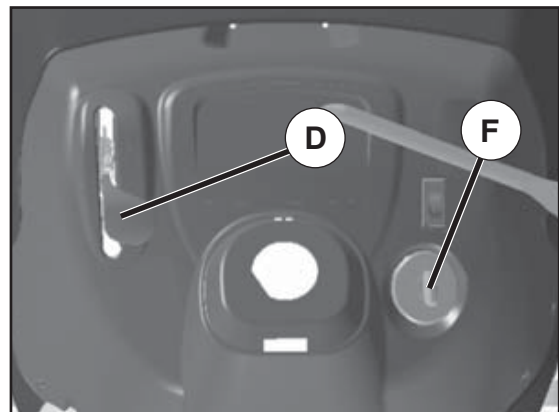

Fig. 7
- Move throttle control (D) between half and full speed (fast) position.
- Turn ignition key (F) to "STOP" position and remove key. Always remove key when leaving tractor to prevent unauthorized use.
### TO USE THROTTLE CONTROL (D) (See Fig. 7)